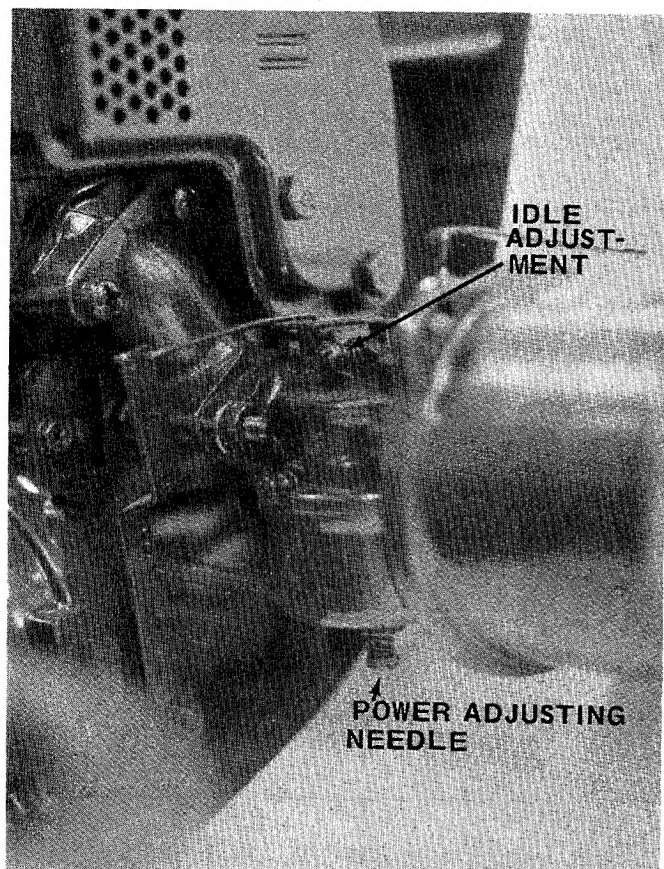

FIGURE 19
### CARBURETOR ADJUSTMENTS (See figure 19)
1. Close power adjusting needle (figure 19) by turning to right (clockwise). Close finger tight only. Forcing will cause damage.
3. Close idle adjusting needle (figure 19) by turning to right (clockwise). Close finger tight only. Forcing will cause damage.
7. Hold throttle lever closed or move carburetor control to IDLE or SLOW position and adjust idle adjusting needle until engine runs smoothly proceeding in step six (6) above.
8. Allow several seconds between each adjustment when performing either step six (6) or seven (7) to allow engine to react to new setting.